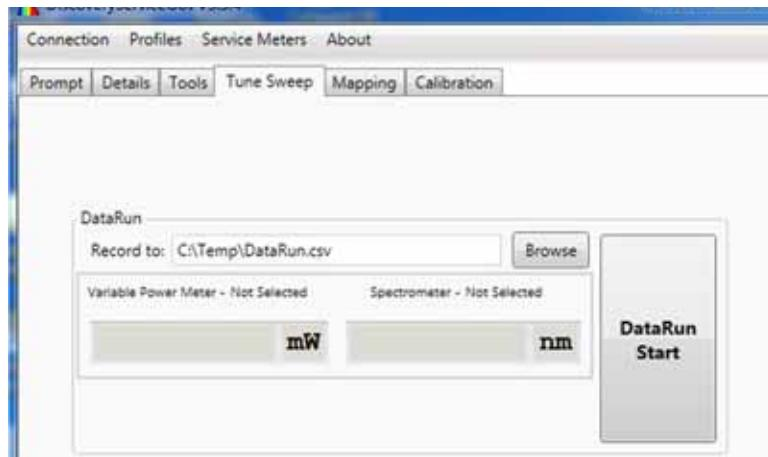

Figure 1.2-22. Tune Sweep Menu
3. Go to the Tune Sweep tab and select a desktop location to save the file. See Figure 1.2-22.